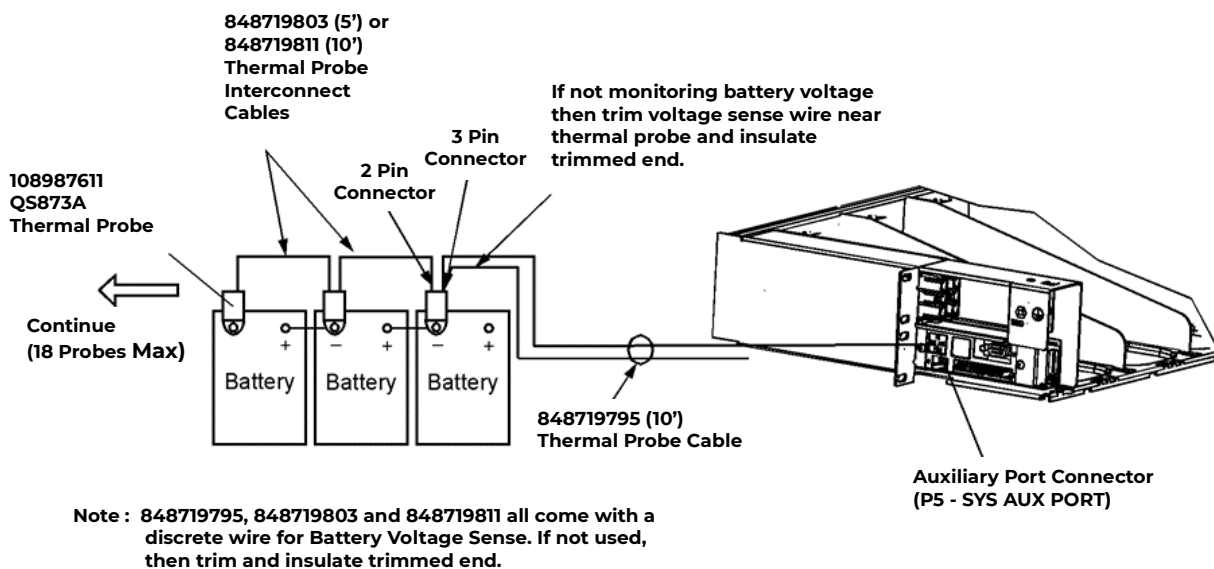

Figure 5-8: VT-Probe Connections to Controller
4.	Connect the other end of the Thermal Probe Cable to the controller P5- SYS AUXPORT connector. See Figure 5-8.
6.	<div> <div> Yes - Using a interconnect cable connect the 2 pin connector to the first thermal probe and then connect the next probe with the 3 pin connector, daisy chain until all probesare connected. See Figure 5-8.Two interconnect cables are available; 5 foot cable 848719803 10 foot cable 848719811 </div> <div> No - Complete. </div> </div>